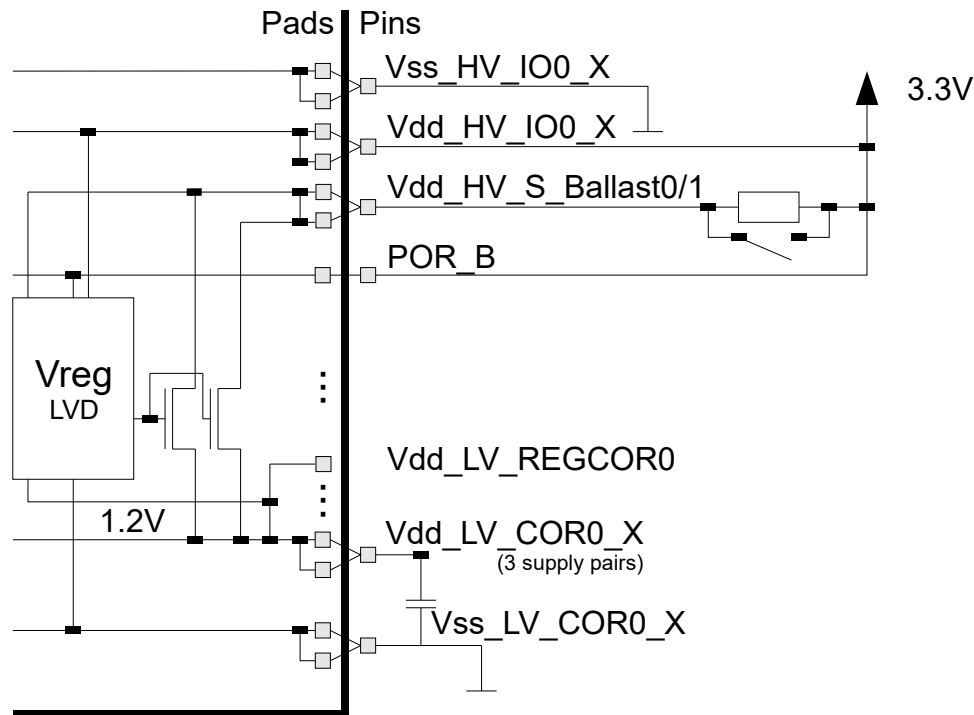

Figure 4. Internal Regulation Mode
- $V_{DD\_LV\_COR}$  (1.2V) — This is the core logic supply. In the internal regulation mode, the core supply is derived from the main supply via an on-chip linear regulator driving an internal PMOS ballast transistor. The PMOS ballast transistors are located in the pad ring and their source connectors are directly bonded to a dedicated pin. See Figure 4.